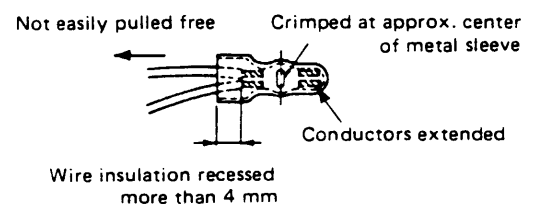

Fig. 7
(5) Check the four points noted in Fig. 7.